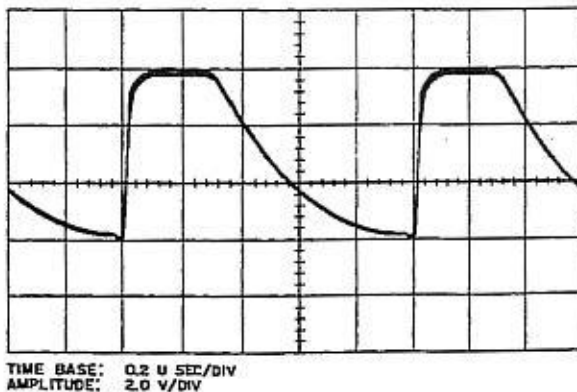

Figure 6.8B – Q1, Collector Waveform
scope to collector of Q1 (or bottom of R2). The observed waveform should resemble the one shown in figure 6.8B.
b. Connect oscilloscope to the collector of Q1 (or the right side of R2), and adjust R66 for a pulse width of 0.25 usec at the flat top of the waveform. Waveform should resemble figure 6.8B.